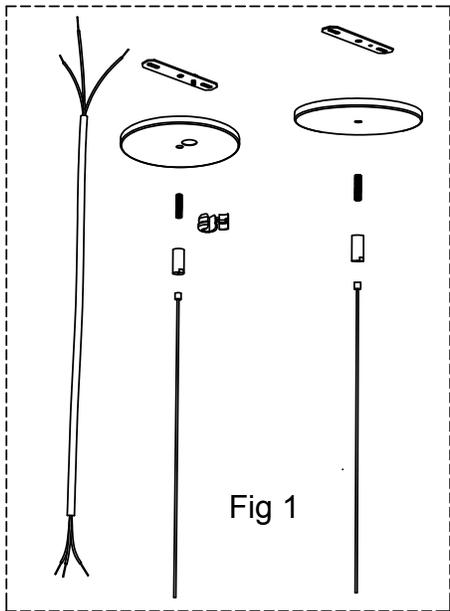

Fig 1
Step 2. Install canopy sets (cross bar, threaded rod, canopy, cable coupler, AC cable, power cord) and connect power cord (see Fig 1). For spacing refer to table provided. Canopy set with power cord only at the ends of row.